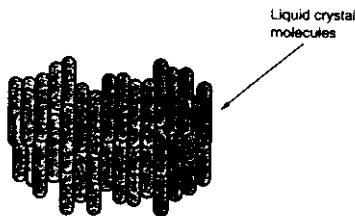

Figure 1 Structure of nematic liquid crystal
Liquid crystal (LC) is an organic substance that has both a liquid form and a crystal molecular structure. The rod-shaped molecules are normally in a parallel array, and an electric field can be used to control the molecules. Most LCDs today use a type of liquid crystal called twisted nematic (TN) (see Figure 1).